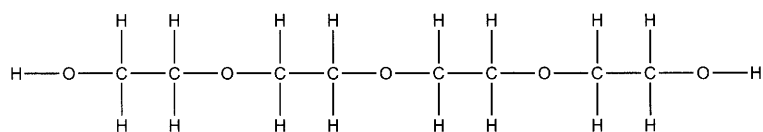

Figure 7 The PEG 200 molecule
The monomer for both polyethylene glycol 200 and polyethylene glycol 2000 is epoxyethane, whose formula is OCH_2CH_2 . The general formula for polyethylene glycol is $\text{H}(\text{OCH}_2\text{CH}_2)_n\text{OH}$. Polyethylene glycol 200 has four monomer units in its chain (plus a H atom at one end and an -OH group at the other) so $n = 4$, see Figure 7. Polyethylene glycol 2000 has 45 monomer units in its chain (plus end groups) so $n = 45$.
- Q9.** On a copy of the formula of PEG 200, Figure 7, mark the four monomer units.